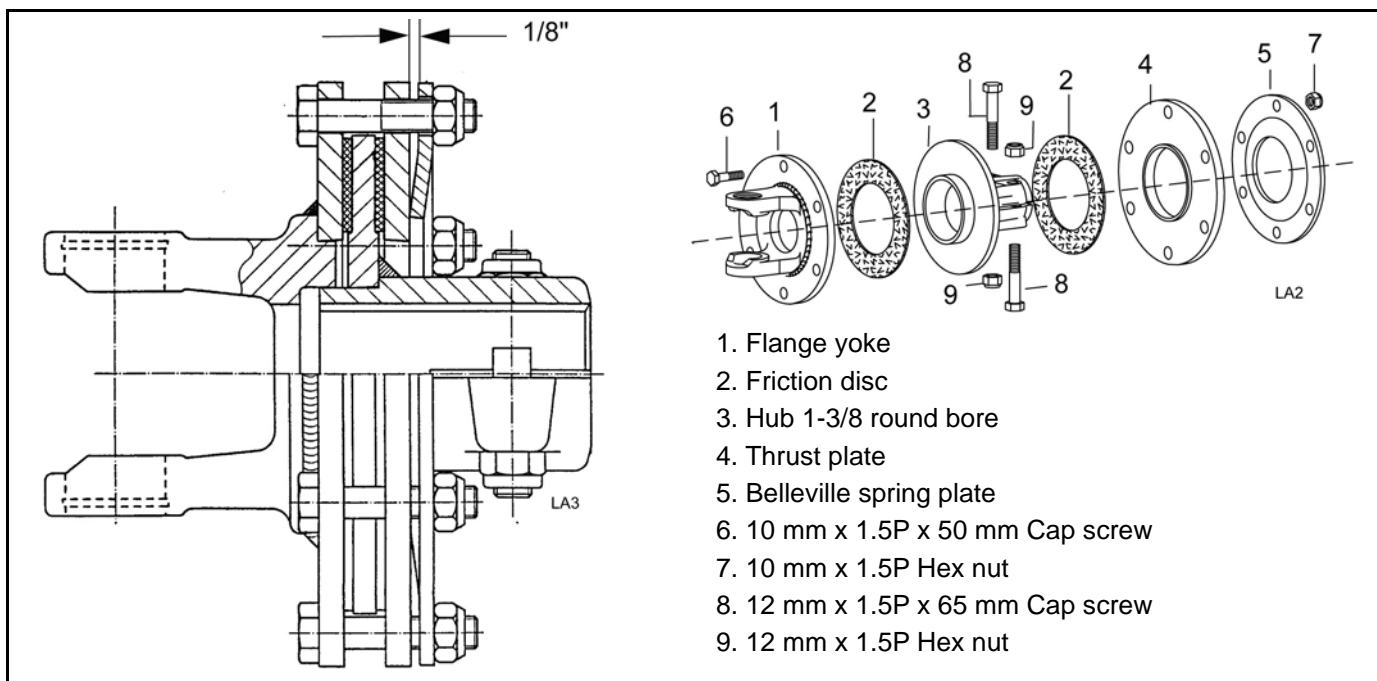

Figure 9. 2-Plate Slip Clutch Assembly
2-PLATE SLIP CLUTCH ADJUSTMENT (Figure 9)
3. Loosen six 10 mm cap screws (6) to remove all tension from Belleville spring plate (5).
4. Hold clutch hub (3) solid and turn shaft to make sure clutch slips.
5. If clutch does not slip freely, disassemble and clean the thrust plate faces (4), flange yoke (1), and clutch hub (3).
7. Tighten Belleville spring plate (5) until it is against the thrust plate (4) of the clutch, and then back off each of the six nuts by 2 full revolutions. The gap between Belleville spring plate and thrust plate should be 1/8" as shown in Figure 9.
8. If a clutch continues to slip when the spring is compressed to 1/8" gap, check friction discs (2) for excessive wear. Discs are 1/8" when new. Replace discs after 1/16" wear. Minimum disc thickness is 1/16".